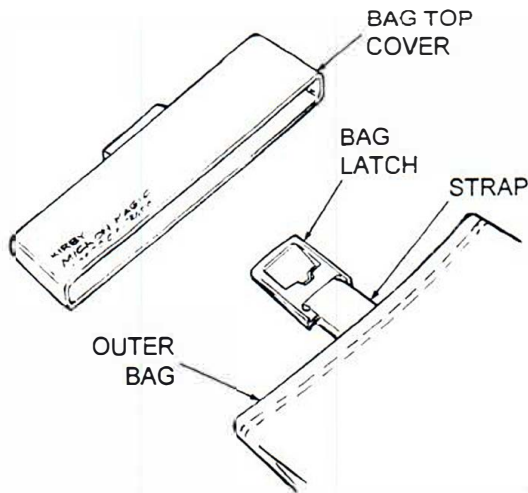

Figure 36. Bag Top Assembly Service
- A. See Figure 36. Remove the bag top cover by lifting it straight up off the bag latch.